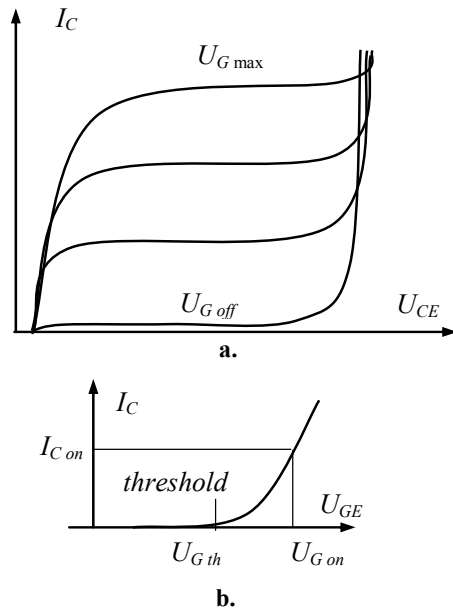

Fig. 1.46
**Characteristics.** The output curves of the *n*-channel IGBT and the input characteristic are shown in Fig. 1.46. The output curves are very similar to those of the small-signal *nnp*-type bipolar transistor. The difference is that the gate signal of the IGBT is the gate voltage rather than the base current as for the bipolar transistors. Accordingly, the current of the input signal of IGBT does not flow through the gate. The transfer curve is identical to that of the power MOSFET. The curve is reasonably linear over most of the collector current range, becoming nonlinear only at low collector currents where the gate voltage is approaching the threshold.